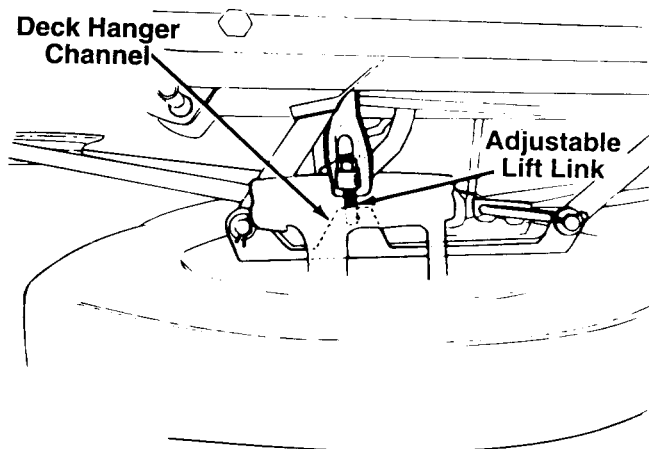

FIGURE 4
2. Pull the adjustable lift link out of the deck hanger channel. See figure 4. Turn the adjustable lift link up or down as necessary to level the deck. Usually only one or two turns are needed.